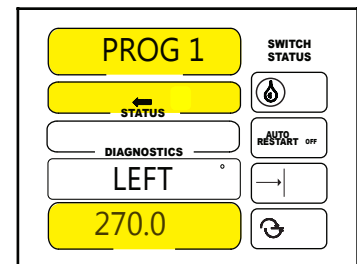

Figure 59-2
2. Set left angle of sector and the direction. See figure 59-2.